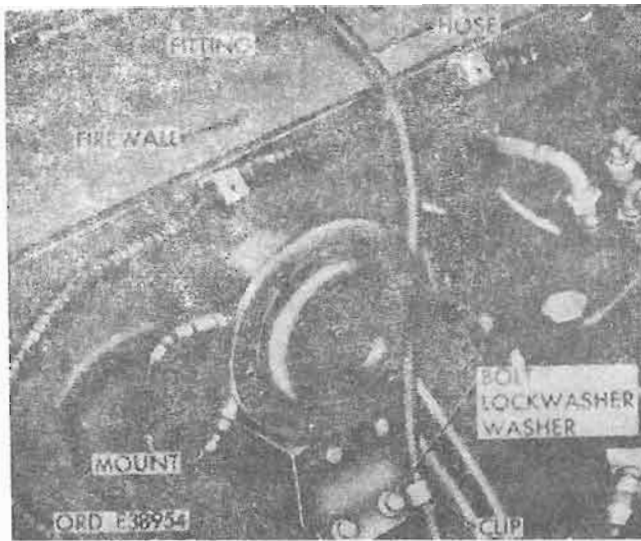

Figure 4-26. Remove vacuum hose from fitting at firewall.
(18) Remove bolt, lockwasher, and washer securing vacuum hose clip to horn mount. Remove vacuum hose from fitting at the firewall (fig. 4-26).